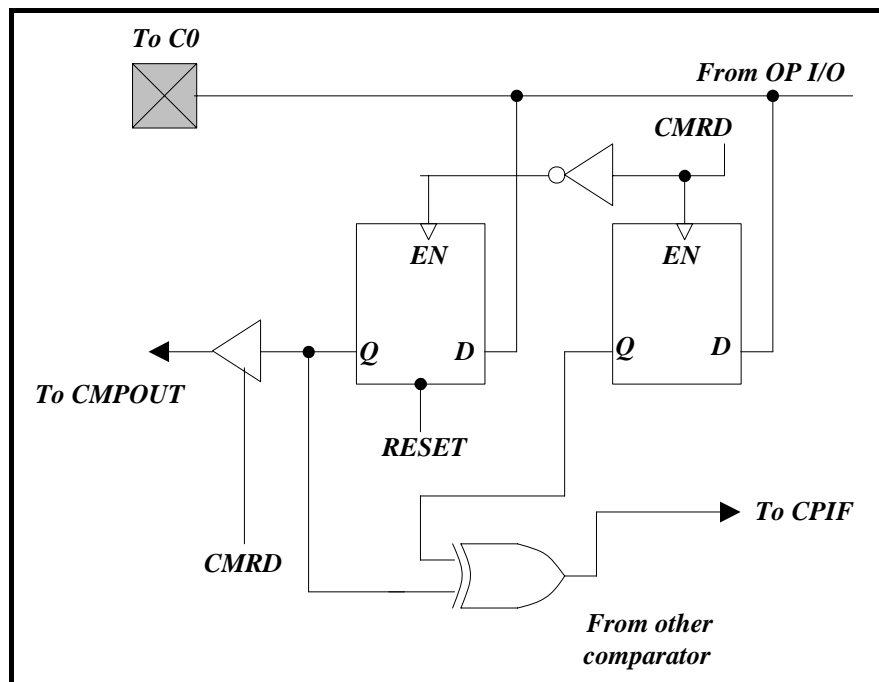

Figure 6-33 Comparator Output Configuration
- Figure 6-33 shows the comparator output block diagram.